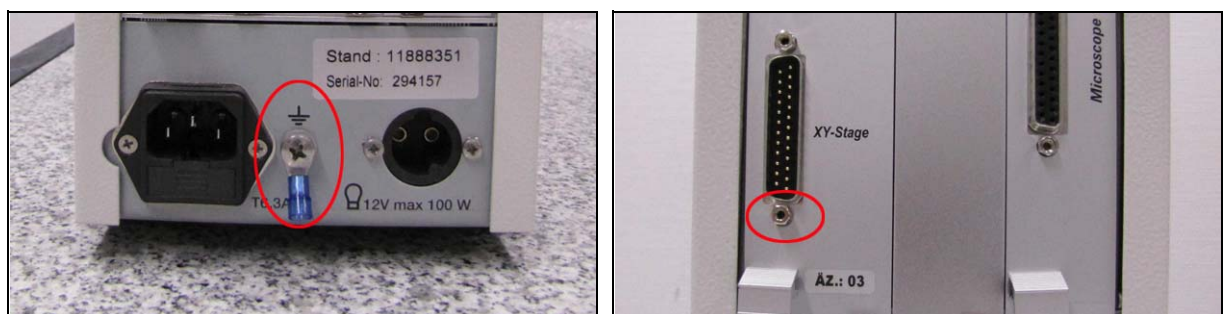

Figure 5: CTR box – measuring points on the metal housing, regular measuring point (left) and alternative measuring point (right)
The measuring points are the protective conductor terminal (PE) and electrically conductive points on the metal housing (also refer to figure 5)
If the metal housing is coated completely and you cannot find any regular or alternative measuring point on the device (see figure 5), you have to pierce the varnish with the gauge tip.